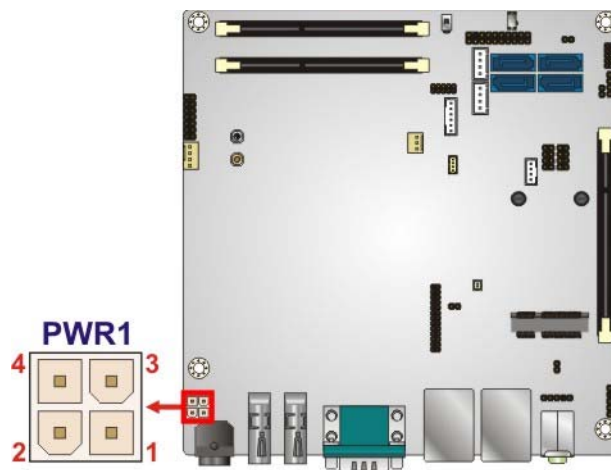

Figure 3-3: Power Connector Location
- CN Location:** See **Figure 3-3**